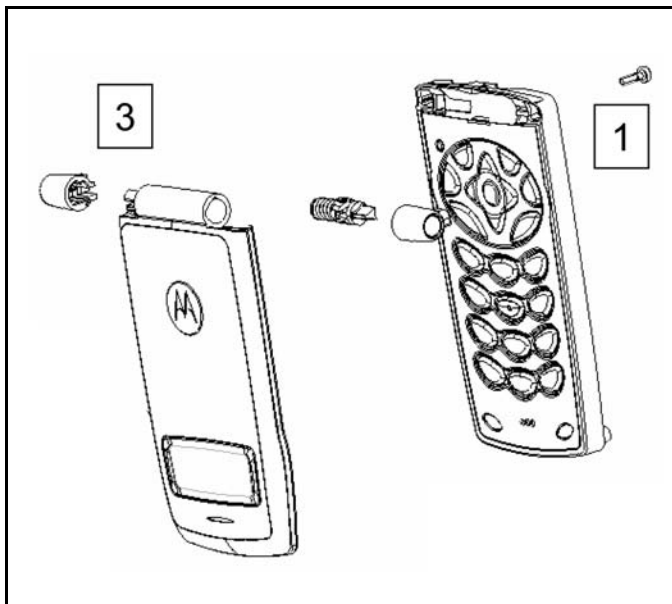

Figure 7-19.
1. Remove T-6 screw holding flip assembly to front housing (see Figure 7-19).